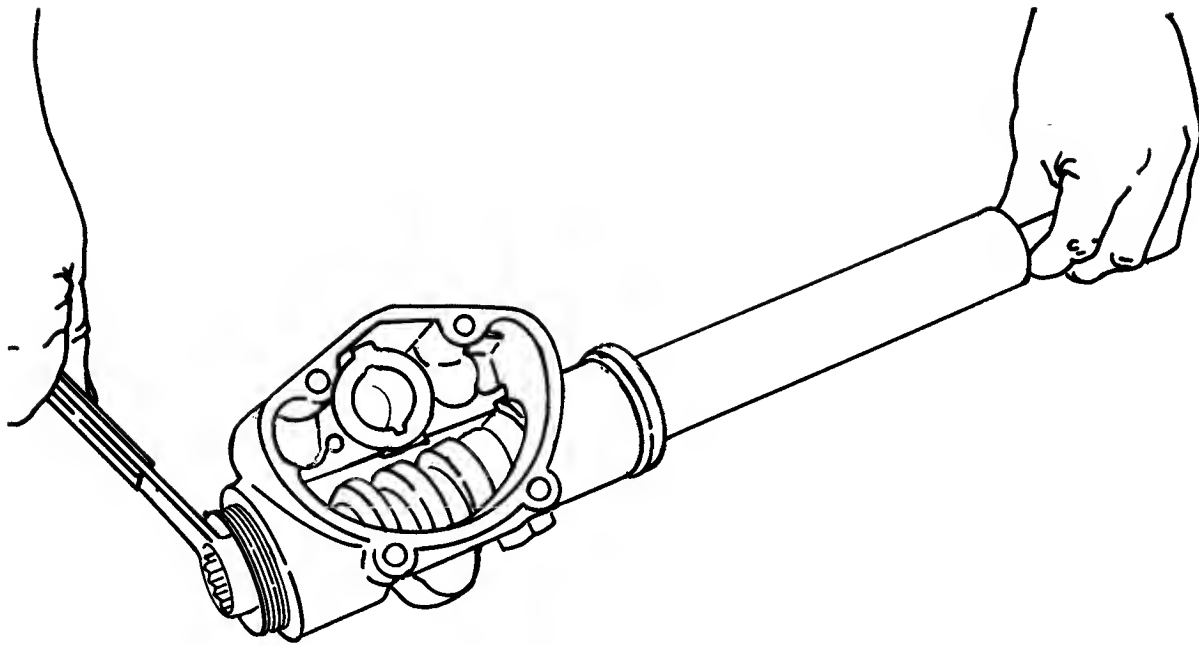

FIG. 2.19 — PRE—LOAD SETTING ON 1855 SHAFT BEARINGS
2. Install adjusting nut and tighten until steering shaft has a slight bind when turned. Fig. 2.19. At this point adjust nut until shaft has no end-play with no binding when turned. Secure adjusting nut with lock.